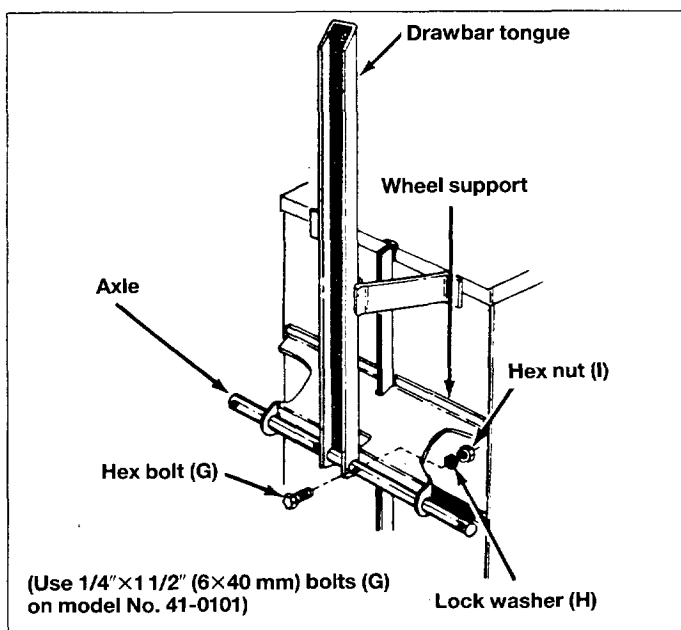

Fig. 11
16. Assemble axle and drawbar tongue to wheel support keeping open side of tongue facing down. Fasten axle to wheel support or axle brackets, using $1/4" \times 1 1/2"$ (6 $\times$ 40mm) long hex bolts (G) lock washers (H) and hex nuts (I). See figure 11.